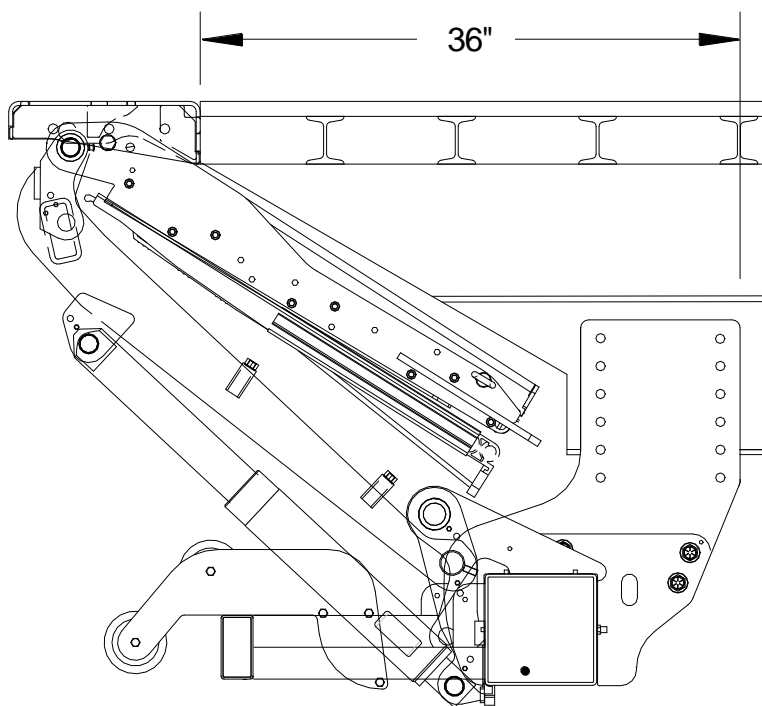

Fig.2
- Minimum clearance area required for an ILT liftgate to install on a vehicle is 36". Clearance area should be free of any obstruction that will prevent the installation of the liftgate, **Fig.2**.